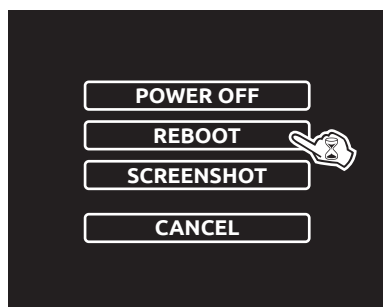

Fig. 4
- Press and hold the switching off key until Fig. 4 is displayed and then release it and press **REBOOT** (or press **CANCEL** to return to the previous screen).